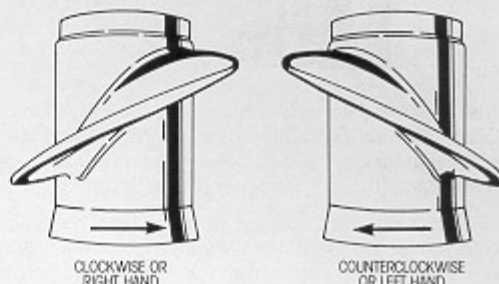

Figure 13
There are Right-Hand (Figure 13) rotating (RH) and Left-Hand rotating (LH) propellers. Most stern drive propellers are RH rotation.